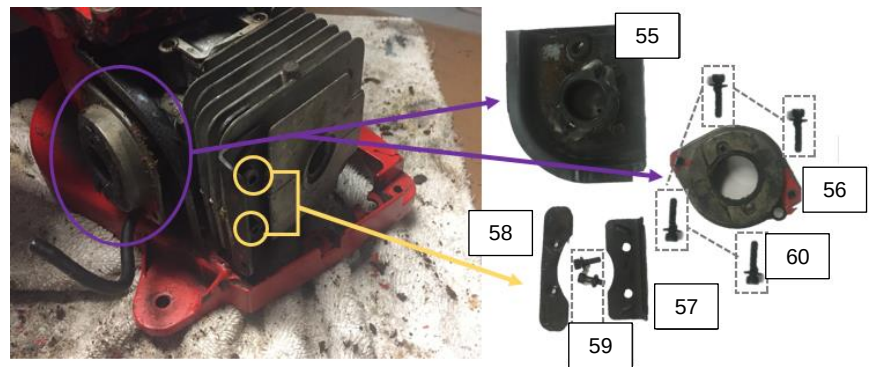

Figure 25: Carburetor-Engine Connector Subassembly Removal
Step 22: Positioning the main assembly upright again, use a 9/64in Allen Key to unscrew four Carburetor to Engine Bracket Bolts (60) from the Carburetor to Engine Bracket (56). Manually remove the Carburetor to Engine Bracket and the Carburetor to Engine Bracket Housing (55). (Figure 25)
Step 23: Use a 1/4in wrench to unscrew the two Carburetor-Engine Shield Bolts (59), and manually remove the Carburetor-Engine Shield (57) and the Carburetor-Engine Shield Back (58). (Figure 25)